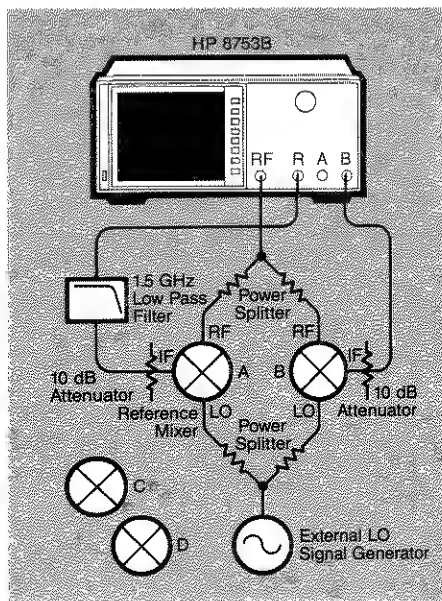

Figure 14. Block diagram for an amplitude and phase tracking measurement.
The HP 8753B can be used to measure swept IF amplitude and phase tracking between mixers over a specified frequency interval. A block diagram of the hardware configuration necessary for this measurement is shown in figure 14.
1. Connect the hardware, including mixers A and B, as shown in figure 14.